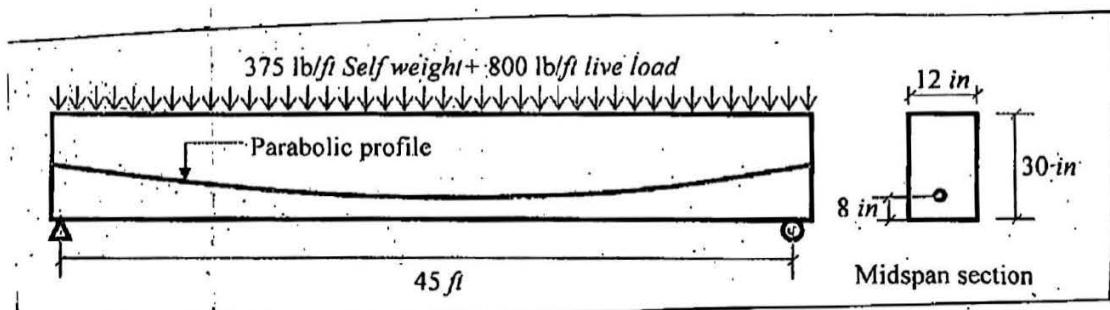

Fig. 6
8. (a) A posttensioned simple beam as shown in Fig. 6 has an initial prestress of 145000 psi, reducing to 126000 psi after deducting all losses and assuming no bending of the beam. The parabolic cable has an area of 2.8 sq in., $n=6$. The beam carries superimposed dead load of 800 plf in addition to its own weight of 375 plf. Compute the stresses in the steel at mispan, assuming: (18)
- (b) For the beam shown in Fig. 6 compute the total dead and live uniform load that can be carried by the beam.
4. (a) A reinforced concrete shear wall (height = 42 feet, length = 15 feet, thickness = 10 inch) of a 4-storey building are subjected to the factored lateral loads as shown in Figure 6. Design necessary reinforcements for the shear wall between the base and first floor. Show reinforcements both in plan and elevation. Given: $f_c' = 4$ ksi, $f_y = 60$ ksi. You need not to consider self-weight of the wall as it is less than the balanced axial load of the section. (22)